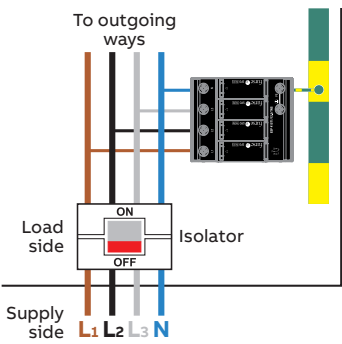

Figure 1: ESP 415T1/XXX SPD mounted within a distribution board connected to the incoming supply on the load side (i.e. downstream) of the isolator.
ESP 415T1/XXX SPDs need to be installed very close to the power supply to be protected. The ESP 415T1/XXX SPD will be installed at a main power distribution board, either inside it (Figure 1) or right next to it in an enclosure (Figure 2). The SPD includes a DIN foot for mounting onto 35 mm top hat DIN rails.
- (i) on the load side of the incoming isolator (Figure 1).